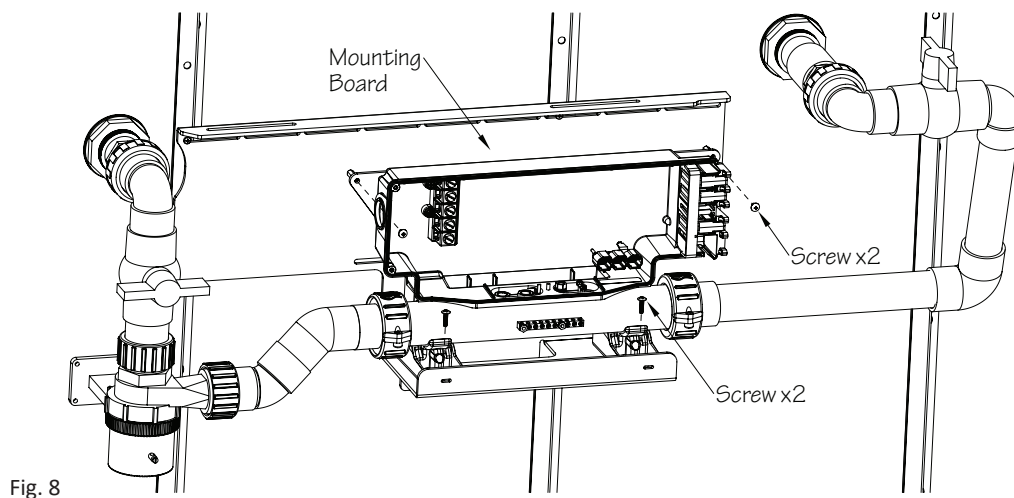

Fig. 6
6. Once the components are unplugged from the controller, trace the cords to the appropriate cable clamp on the right side of the controller. Slide the clamp out of the slot and open the clamp to remove the cord (Fig. 6).